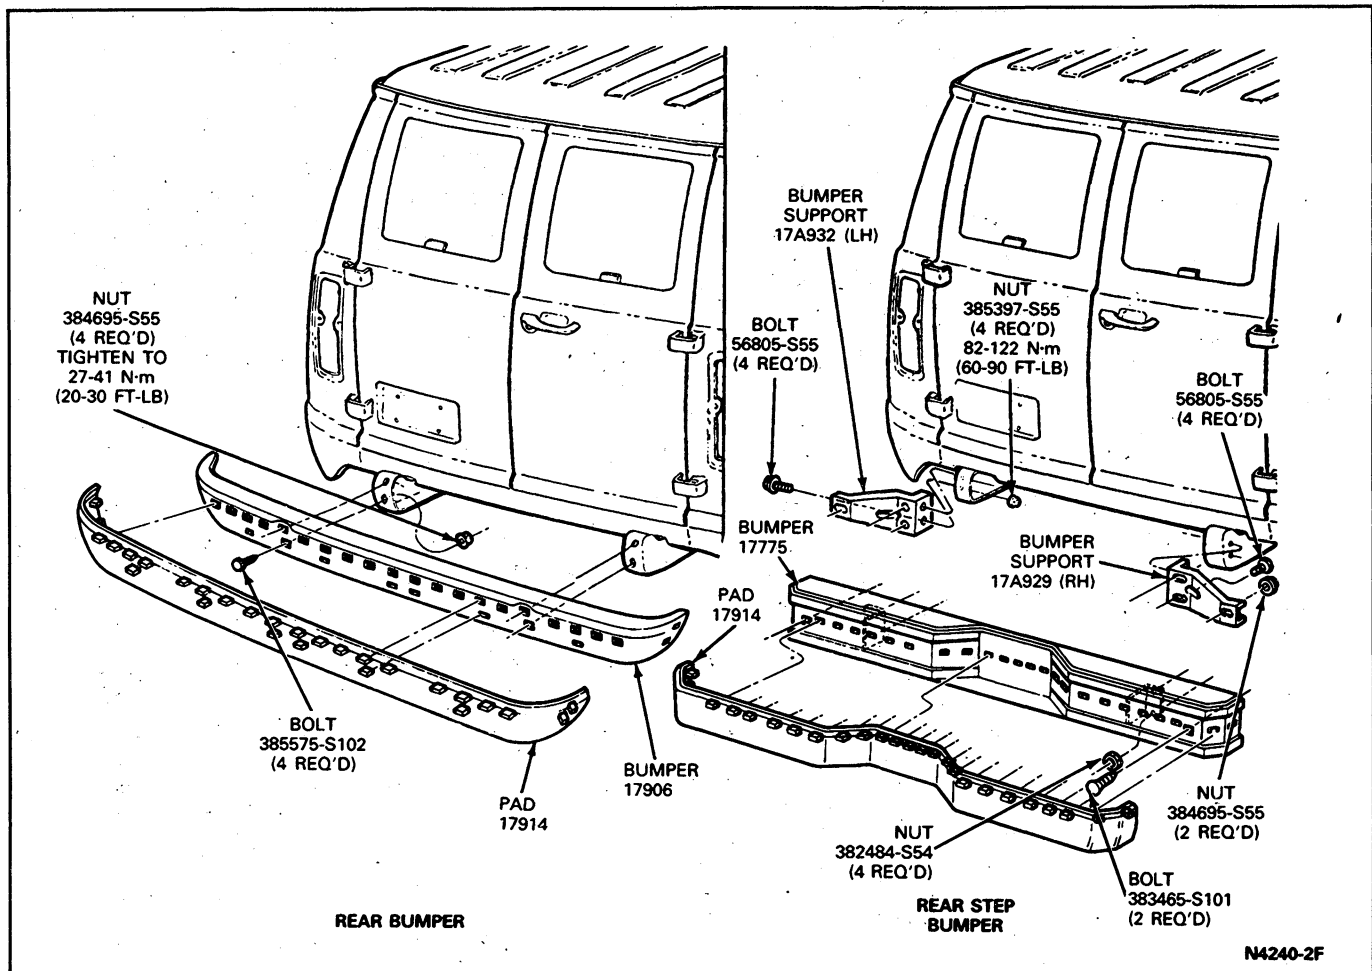

FIG. 4 Rear Bumper
- Remove four nuts and bolts attaching the bumper to the support brackets (Fig. 4).